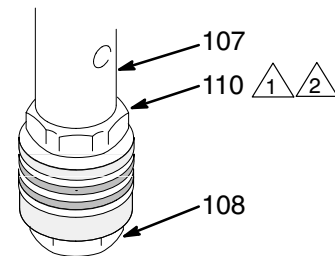

Fig. 21
- Hand tighten the valve into the piston rod just until the nut (110) contacts the rod. See Fig. 21.
- Place the flats of the rod (107) in a smooth jaw vise.
- CAREFULLY** tighten the nut (110) against the piston rod to 19 ft-lb (25 N.m). See Fig. 21.
- Do not allow nut (110) to move relative to piston (108) when tightening piston against rod.